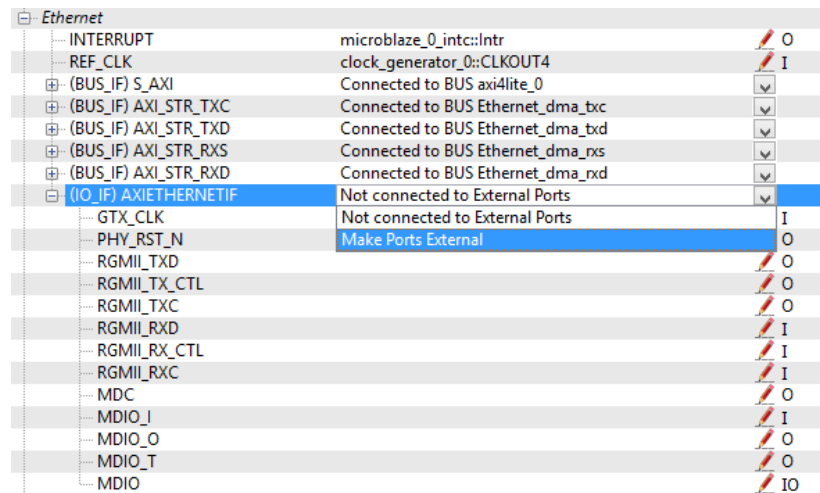

Figure 3
**Step 4:** In the window which appear go to Port tab and verify whether the Ethernet IOs are connected has external port. If not then connect it to external port by selecting “Make Ports External” as shown in Figure 3.